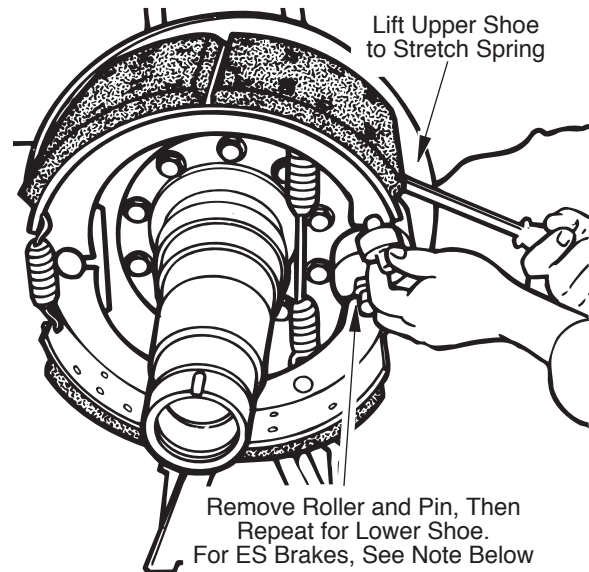

Figure 6
3. Using a large screwdriver or lever, lift upper shoe to stretch return spring as shown in Figure 6.